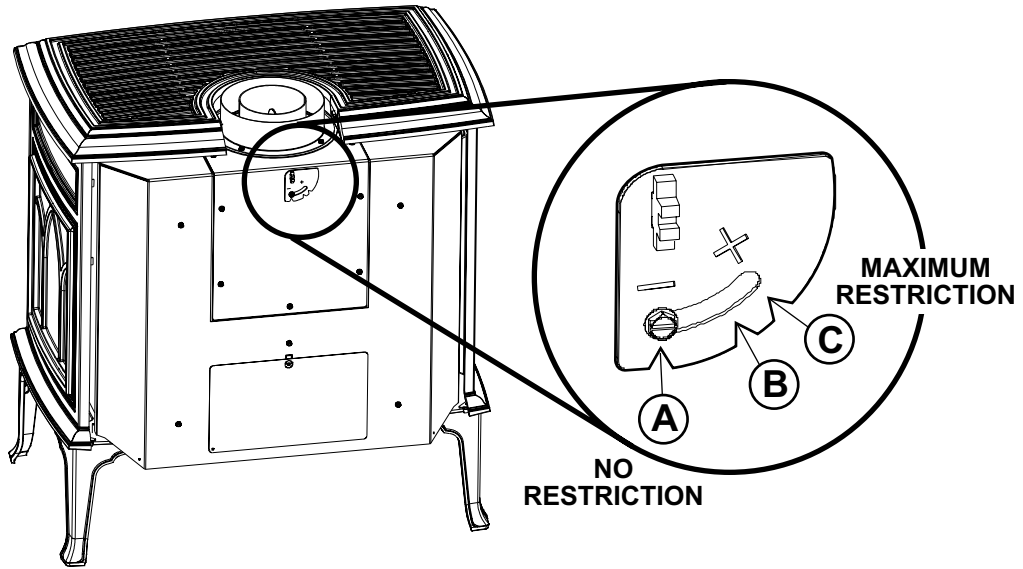
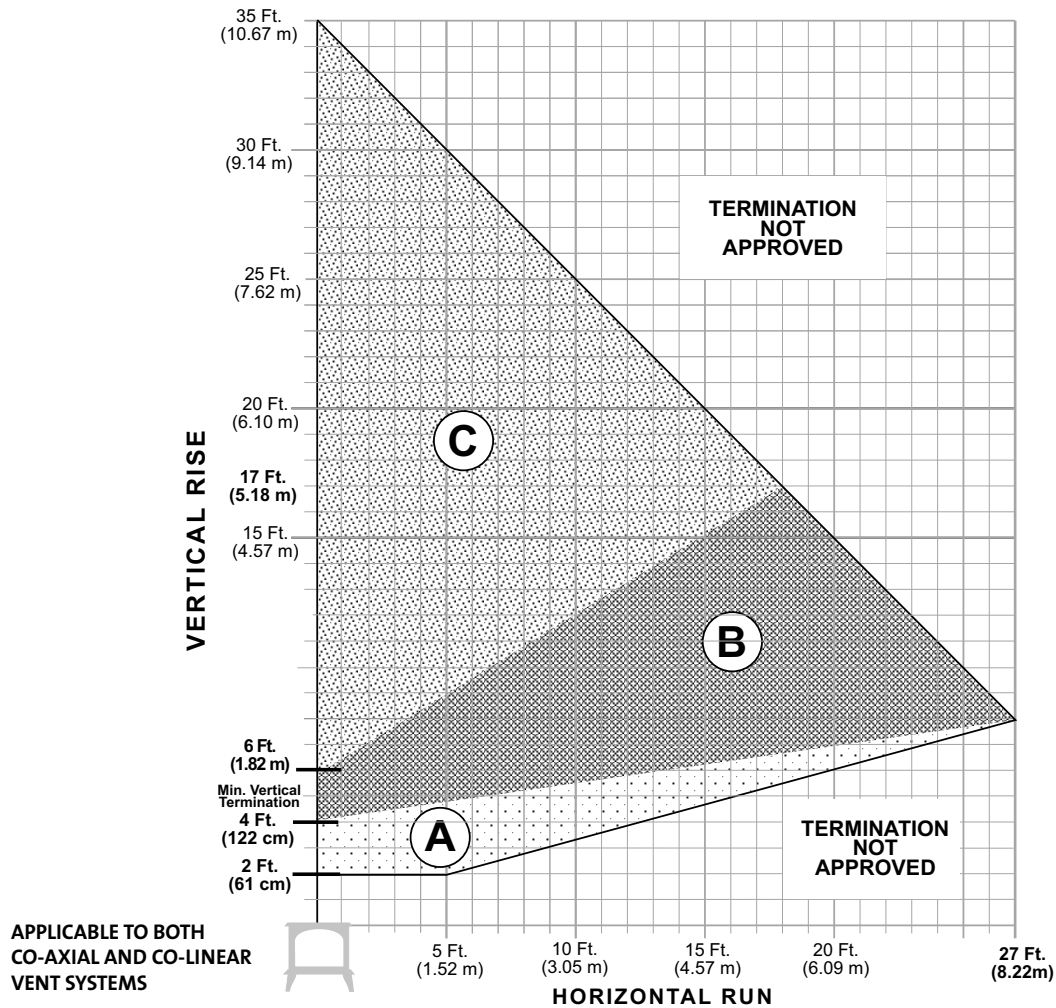

Figure 14. Use 1/4" socket driver to loosen the Exhaust Restrictor dial and adjust to the appropriate notch for your termination zone.
Figure 15. Vent Termination Zone Matrix - NG / LP
The Exhaust Restrictor is an adjustable plate located within the firebox exhaust outlet. It is adjusted by rotating the dial at the back of the stove within a range from the factory-set, fully open (no restriction) position to a fully restricted position. See Fig. 14. The Plus (+) and Minus (-) signs on the dial relate to degrees of restriction, from zero to approximately 70%. The three lettered positions correlate to the termination zones (A,B,C) diagrammed in figure 15. Use the diagram to determine the degree of restriction and shutter setting you should use.
3. Locate the restrictor adjustment dial on the top of the exhaust outlet. Use a 1/4" nut driver to loosen the lock nut and pivot the dial to the position appropriate to your termination zone. See figs. 14 and 15.
The circled letter designations in the vent matrix in figure 15 correspond to the Exhaust Restrictor dial settings on the stove. First, determine which vent termination zone is appropriate for your installation, then adjust the restrictor to the corresponding position as shown in figure 15.
- The termination should fall within the shaded areas of the grids depicted in the Vent Matrix, fig. 15, page 11.
- Any horizontal termination must fall within the shaded portion of the vent window matrix shown in fig. 15.